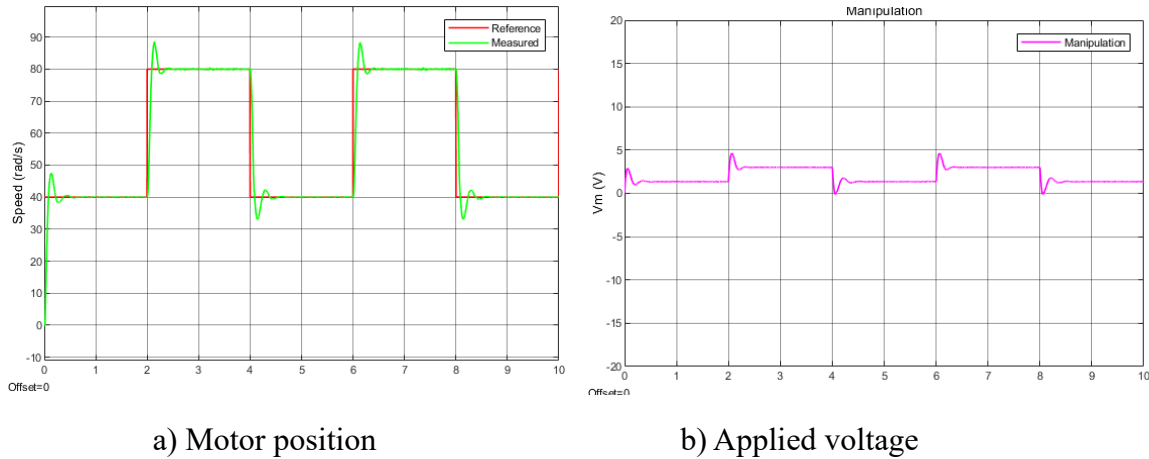

Fig. 2.3: Servo control when input voltage to the motor and the QUBE-Servo 3 Model is applied.
D.3 Set the integral gain to $K_i = 2.5[\text{V}/(\text{rad} - \text{s})]$ and the proportional gain to $K_p = 0.05[\text{V} - \text{s}/\text{rad}]$. Build and run the QUARC® controller with your QUBE-Servo 3 model. The scope response should be similar to Fig. 2.3.